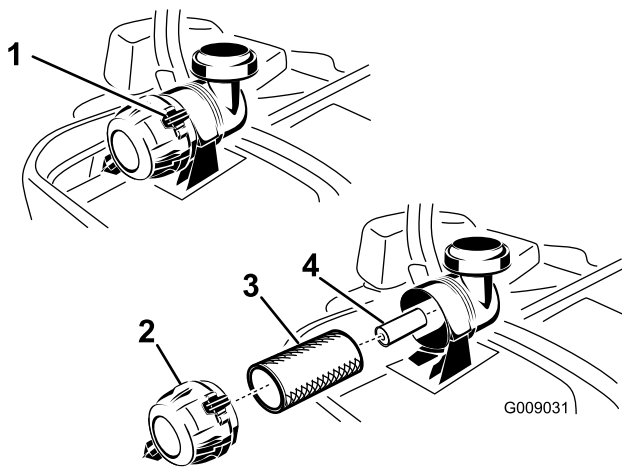

Figure 44
3. Push down to release the retaining clamps on the air cleaner and pull the air cleaner cover off of the air cleaner body (Figure 44).
5. Gently slide the primary filter out of the air cleaner body (Figure 44). Avoid knocking the filter into the side of the body.
1. Do not clean the paper filter, replace it (Figure 44).
2. If the secondary filter (22hp and 24hp Engines Only) is being replaced, carefully slide it into the filter body (Figure 44).
3. Carefully slide the primary filter over the secondary filter (Figure 44). Ensure that it is fully seated by pushing on the outer rim of the filter while installing it.
4. Install the air cleaner cover with the breather cap down and rotate so the retaining clamps lock the cover in place (Figure 44).